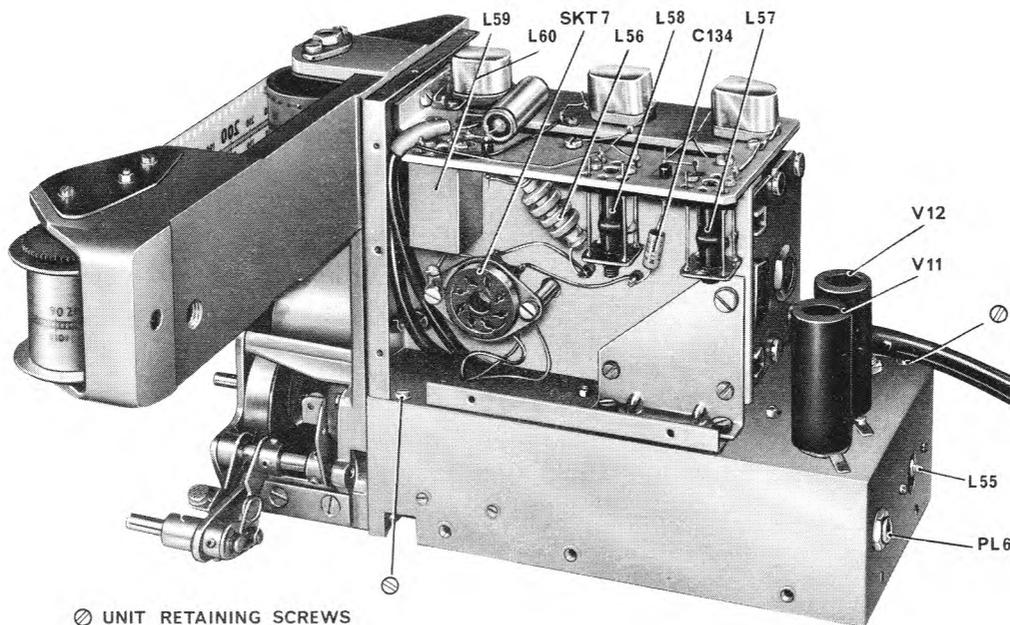

Fig. 6. Second VFO unit—rear
98. Locate the tuning cores of L57, L58 and L59 (fig. 6) mounted on the top of the second v.f.o. assembly and adjust them in turn for a peak reading in the RF LEVEL meter.